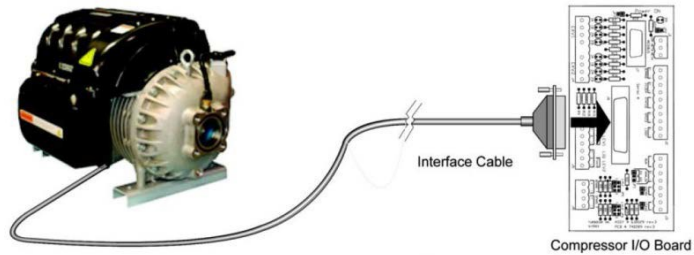

Figure 2 Compressor I/O Board Connections
6. Plug the new cable into connector J6 on the compressor I/O board and J7 on backplane. (Figure 2)